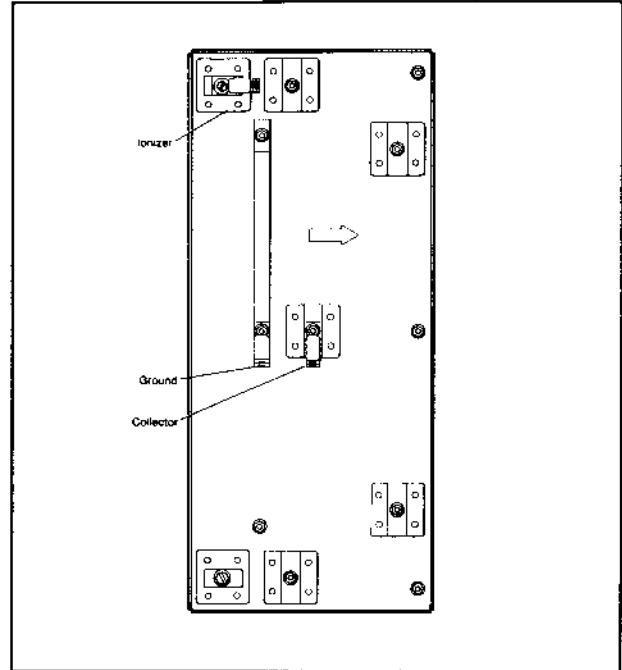

FIGURE 11 - CELL INSULATORS & CONTACTS
- c. Using a voltmeter, measure the voltage from the collector contact to ground. See Figure 11.
- e. Using a voltmeter, measure the voltage from the ionizer contact to ground. See Figure 11.
- a. Turn the electronic air cleaner OFF, and release the interlock safety switch. Bleed the electronic cells by placing a screwdriver across the ionizer contact to ground and the collector contact to ground. See Figure 11.
- c. Remove dirt accumulated on the insulators and on the ionizer and collector contact tabs. See Figure 11.